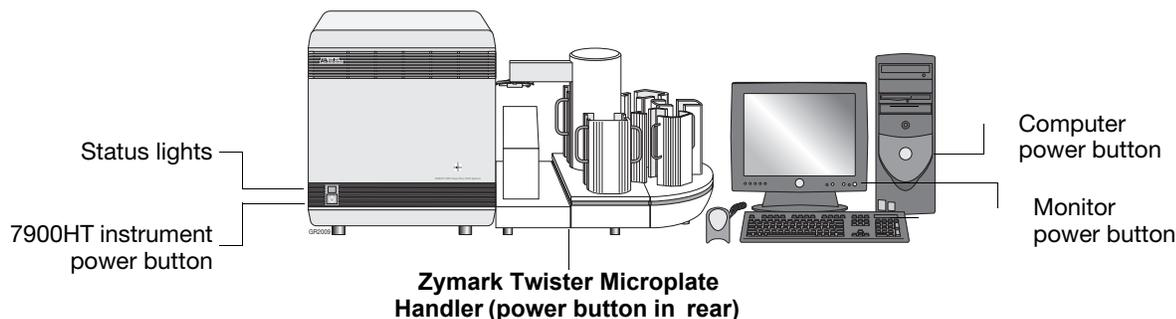

Figure 2-1 Power Buttons of the Applied Biosystems 7900HT Fast Real-Time PCR System
3. Power on the 7900HT instrument by pressing the power button located below the status lights on the front of the instrument (see Figure 2-1).